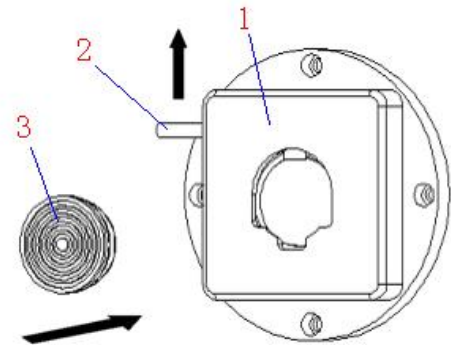

Fig. 24
As shown in Figure 24, lift the clamp lever (2) upward, place the sample (3) into the clamp (1), and then release the clamp lever (2).